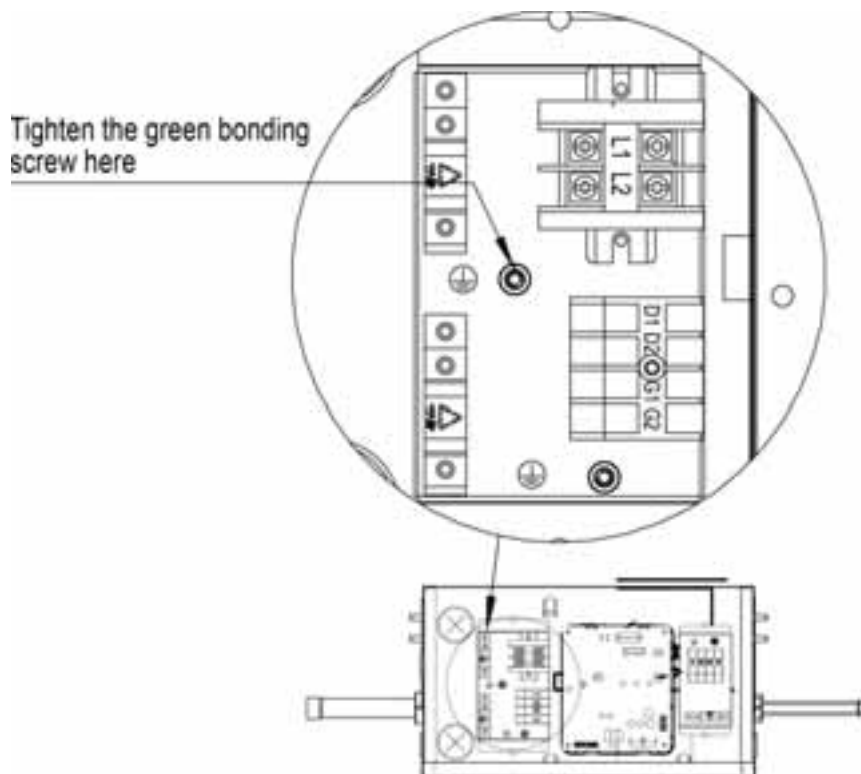

Fig. 5.4
- 3) Connect power cord to “L1, L2” terminal and grounding screw. Please use the green screw to connect the ground cord. The location is showing in the Fig 5.4